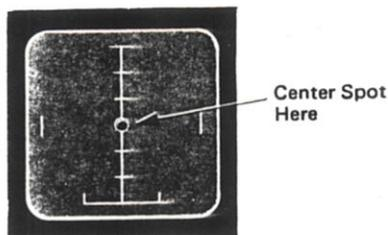

Figure 6. Centering of Scope
Step 2. Adjust the centering controls (VERT and HORIZ) to bring the "dot" into the center of the small circle as illustrated in Figure 6.